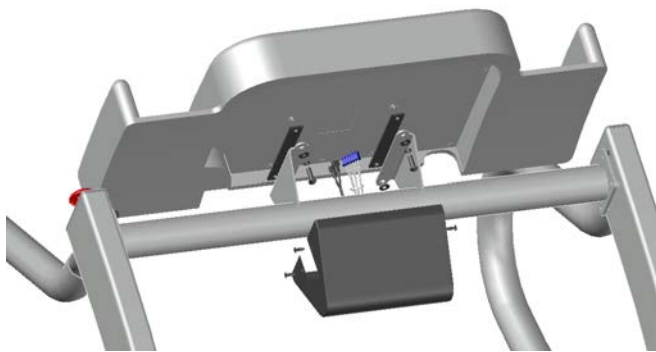

Figure 5-2
4. Figure 5-2 shows the mounting components included with the shipment of the treadmill. The kit contains: